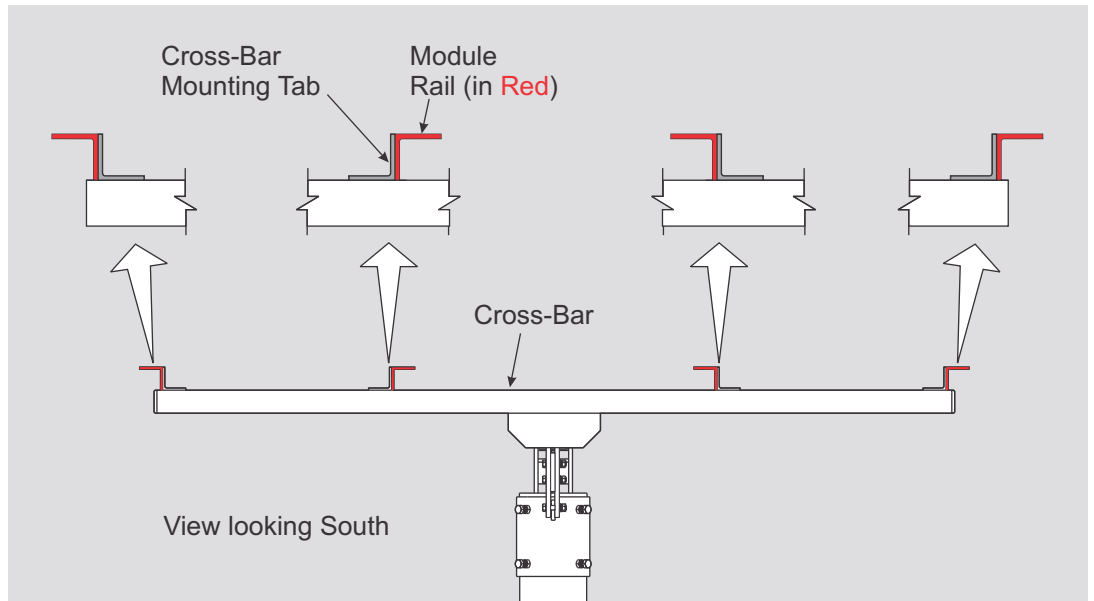
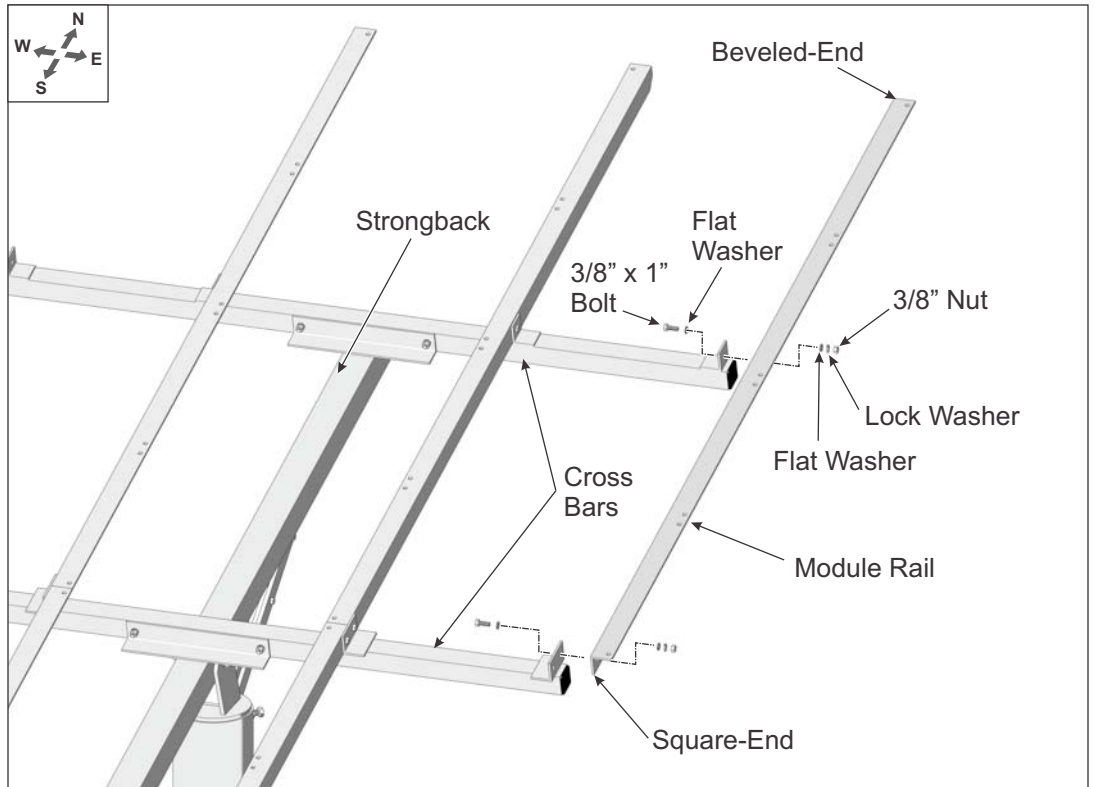

Figure 4-1: Orientation of Module Rails to Cross-Bars
Figure 4-4: Installing the Northern-most outboard Module Rails to Cross-Bars
Additionally, Module Rails are installed differently depending on whether they are mounted inboard or on the outer edges of the Cross-Bars. (See Figure 4-1)
- A. Referring to Figure 4-1 for orientation of the inboard Module Rails, position the first section of Module Rail (with its angle cut end positioned north) at the northern most position on the Cross-Bars. Align the Module Rail mounting holes with the holes of the Cross-Bar mounting tabs and secure with 3/8" x 1" bolts and hardware. Finger-tighten for now. (See also Figure 4-2)
- A. Referring to Figure 4-1 for orientation of the outboard Module Rails, position the first section of Module Rail (with its angle cut end positioned north) at the northern most position on the Cross-Bars. Align the Module Rail mounting holes with the holes of the Cross-Bar mounting tabs and secure with 3/8" x 1" bolts and hardware. Finger-tighten for now. (See Figure 4-4)